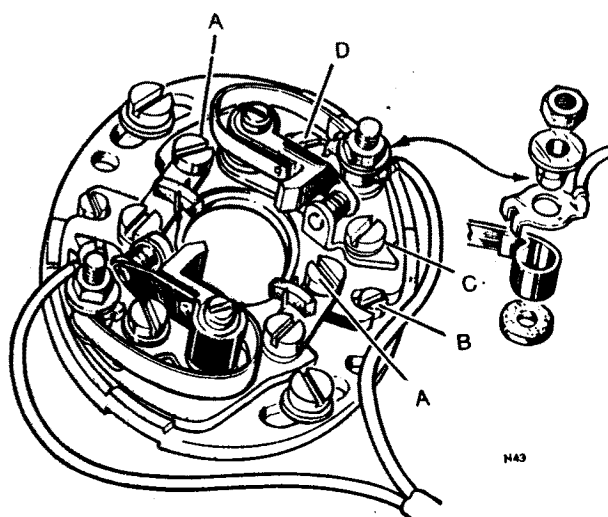

Fig. C54 Lucas contact breaker
- 11 Using the same technique, check that the contact breaker points open at 28° B.T.D.C. on the firing stroke for the second cylinder. If incorrect, make adjustment by movement of the secondary backplate. To do so, slacken screws (A) in Fig. C54 and use the eccentric headed adjusting screws (B) to move the mounting plate. When timing is correct, re-secure the screws (A).
- 8 If timing is incorrect for the left cylinder, correct by slackening off the clamping screw for the secondary backplate for this set of points then use the eccentric headed adjusting screw to move the secondary backplate (see Fig. C54—secondary backplate screws are marked "A" and eccentric screws are marked "B"). Recheck timing with the stroboscope and when correct, secure the screws "A".
Mark III models have the Lucas 10 CA contact breaker assembly, providing a separate and independently adjustable contact set for each cylinder, see *Fig. C54*. Each contact set is mounted on its own crescent-shaped assembly plate that is fixed to the circular base plate by two screws (A). When these screws are loosened, the assembly plate can be moved in relation to the ignition cam (and the base plate) by the eccentric screw (B). This permits a very accurate setting of ignition timing for each cylinder, independently.
Before reassembly, smear the contact breaker pivot post and the cam very sparingly with Retinax "A" grease and add three drops of engine oil to each lubricating felt. When reassembling ensure that the insulating washer, contact breaker spring, terminal and insulating bush are fitted in the order shown in *Fig. C54* and that the terminal tags are inside the curve of the spring. Finally retime the ignition as described in Section C39.